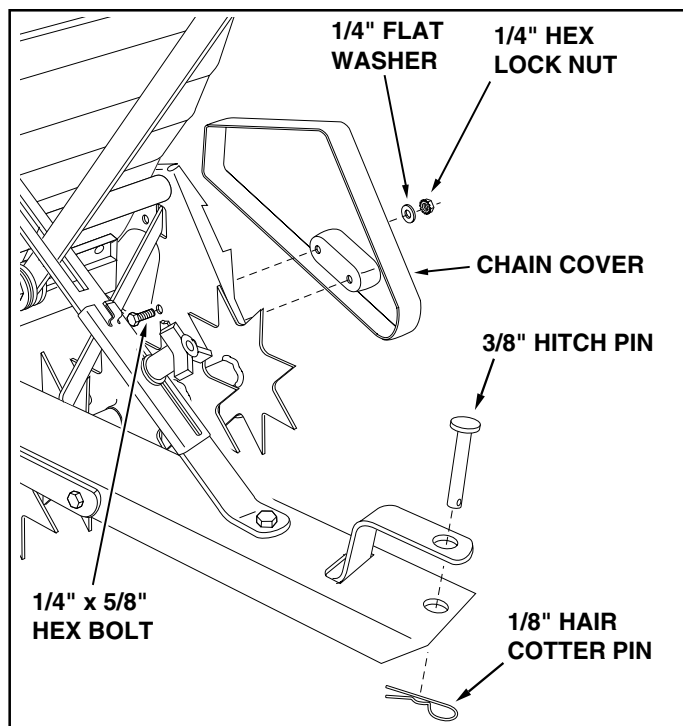

FIGURE 9
20. Assemble the chain cover to the frame assembly using two $1/4'' \times 5/8''$ hex bolts, $1/4''$ flat washers and $1/4''$ hex nuts as shown figure 9.
21. Install the hitch pin and the $1/8''$ hair cotter pin in the spreader hitch bracket and tongue. See figure 9.